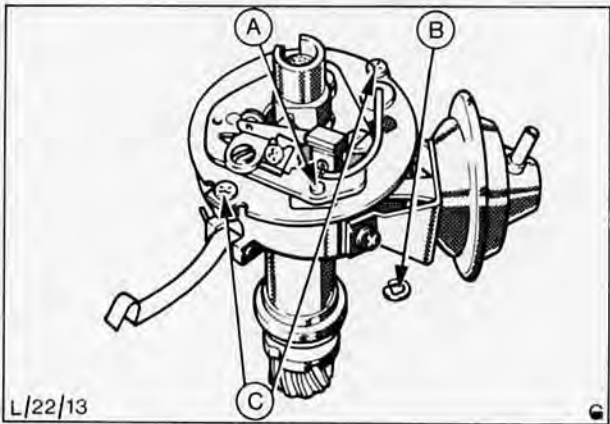

Fig. 48. A – Vacuum unit pivot post
Remove circlip securing upper plate pivot post and remove upper plate spring and washers, Fig. 48.
- 19. Align vacuum unit pivot post with base plate and secure with circlip, Fig. 48.